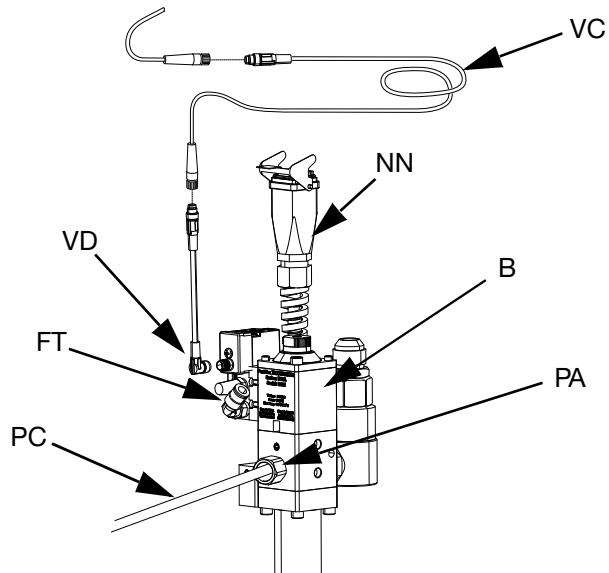

FIG. 32
- Connect the Air Line (AR) (not supplied) to the air fitting (FT) on the dispense valve solenoid. See the iQ Dispense Valves Instructions-Parts manual. See FIG. 32.
- a. Connect the solenoid valve cable (VC) to the M8 4 pin end of the splitter cable attached to Port 4 on the Electric Driver (AB). See **Electric Driver Communication Connections** for Single Rams on page 18. See FIG. 32.
- b. Connect the 90 degree end of the included M8 4 pin cable (VD) to the dispense valve, and the straight end of the solenoid valve cable to (VC). See FIG. 32.
- a. Connect the dispense valve solenoid cable to the tandem dispense valve solenoid connector (YY) on tandem block (R).
- b. Connect the 90 degree end of the included M8 4 pin cable (15N040) to the dispense valve, and the straight end of the solenoid valve cable to (VC). See FIG. 32.
- c. Connect one male end of the M8 4 pin splitter (TT) on the tandem block (R) to the M8 4 pin end of the splitter cable attached to Port 4 on the Electric Driver (AB) for ram 1 and ram 2. See **Electric Driver Communication Connections** for **Tandem Rams** on page 19.